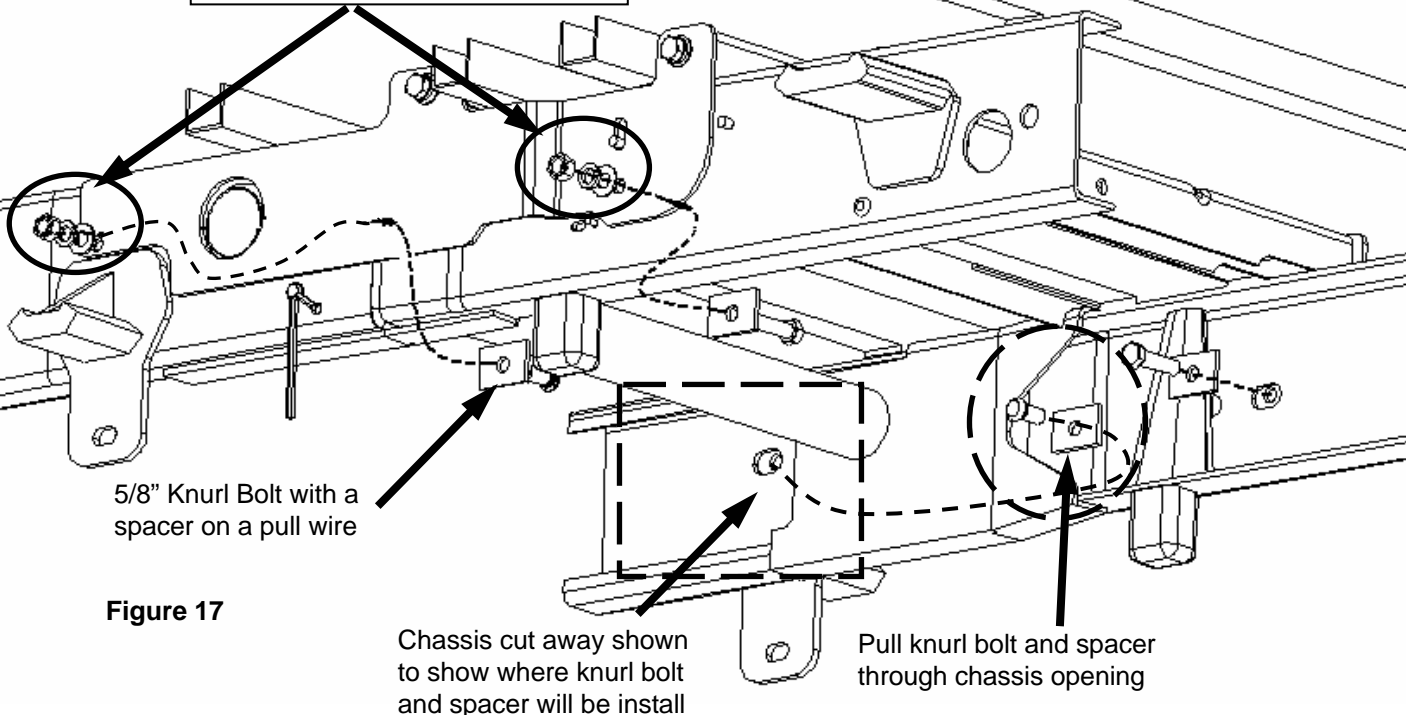

Figure 17
11. Loosely Attach frame brackets to frame using 5/8" x 2" bolts, 5/8" Knurl bolts, spacers, lock washer, flat washers and nuts hand tight (Figure 17). Slide spacer onto the knurl bolt and thread the knurl bolt into the pull wire (Figure 18). Guide the pull wire through chassis, then pull it wire through the chassis to position bolt and spacer. Loosely attach lock washer and nut from outside of frame rail.